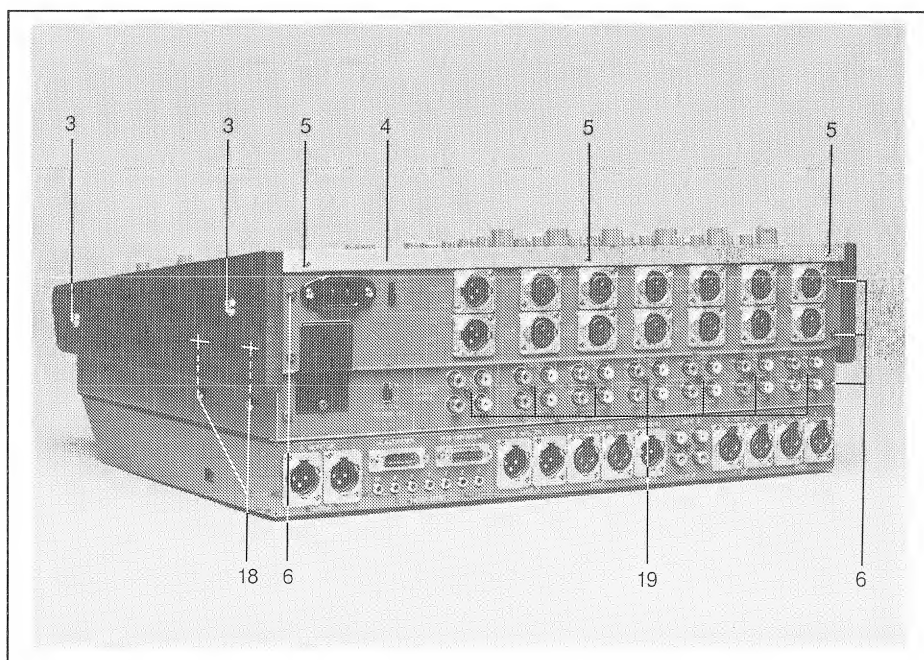

Fig. 3
- Unfasten 2 screws [3] each, Fig. 3.
- Remove the upper trim strip [4], Fig. 3 by unfastening 3 screws [5].
- Unfasten 6 screws [6], Fig. 3, on the rear panel.
- ☐ Unfasten 4 screws [18], (fig. 3); two of the screws are located below the side panel.
- ☐ Unfasten 7 screws [19], (fig. 3), and remove the bottom cover.